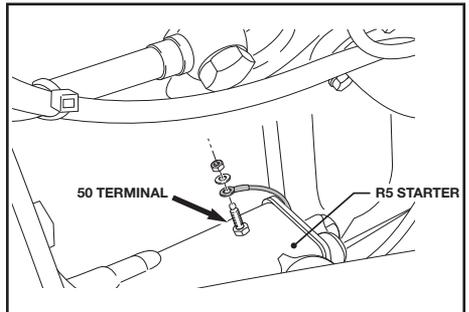

Fig. 10
2. Connect the key switch wire to the key switch stud (50 terminal) (See Fig. 10).